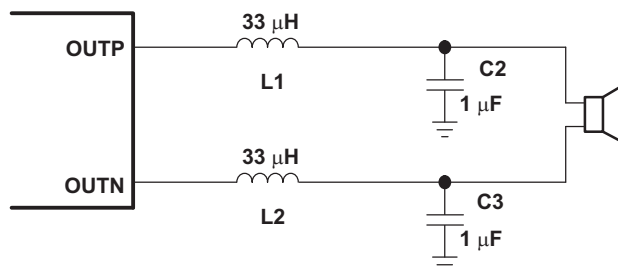
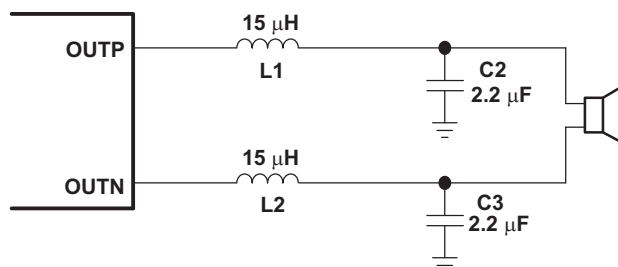

Figure 18. Typical LC Output Filter, Cutoff Frequency of 27 kHz, Speaker Impedance = 8 Ω
Figure 19. Typical LC Output Filter, Cutoff Frequency of 27 kHz, Speaker Impedance = 4 Ω
There may be a few circuit instances where it is necessary to add a complete LC reconstruction filter. These circumstances might occur if there are nearby circuits which are very sensitive to noise. In these cases a classic second order Butterworth filter similar to those shown in Figure 18, Figure 19, and Figure 20 can be used.
- **Output filter:** The ferrite EMI filter (Figure 20) must be placed as close to the output pins as possible for the best EMI performance. The LC filter (Figure 18 and Figure 19) must be placed close to the outputs. The capacitors used in both the ferrite and LC filters must be grounded to power ground.